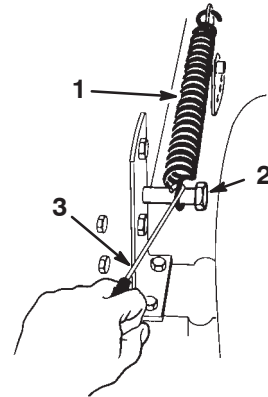

Figure 37
5. Remove the height-of-cut lift assist spring from the retaining bolt (Fig. 37). The spring is between the frame and the right rear wheel.
13. Move the height-of-cut lever into the "D" notch. Hook the lift assist spring onto the retaining bolt for storage (Fig. 37).